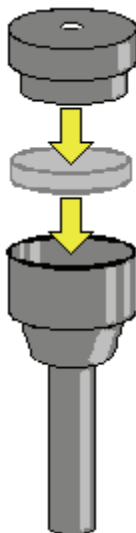

Figure 28 Assembling the septum injector
1. Place a septum into the injector barrel (L2251286) and push the cap (L2251287) into the barrel, trapping the septum, as shown in Figure 28.